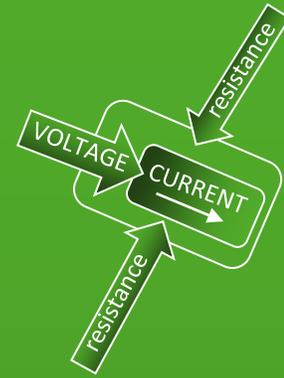

Figure A4.1. Voltage, current, and resistance within a conductor (wire). Current travels through a wire or other conductor.
**Current** is the rate at which electric **charge** flows (see *Figure A4.1*). Similar to how water flows through a pipe, charge carriers (electrons) also can flow through a wire or other conductor. In this comparison, the water would act similar to the charge carriers and the pipe would act similar to the wire. However, one important difference to keep in mind is that a wire is not hollow like a pipe. Instead, the charge carriers flow along the solid conductors of a wire.